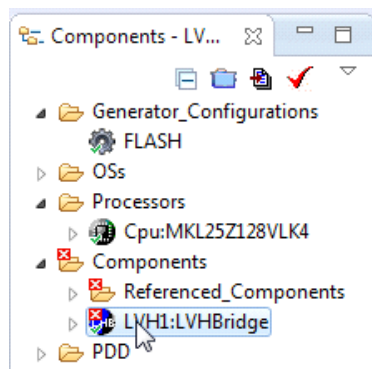

Figure 13. Select the component
2. Double click LVHBridge component in the Components window (see Figure 13) to show the configuration in the Component Inspector view.